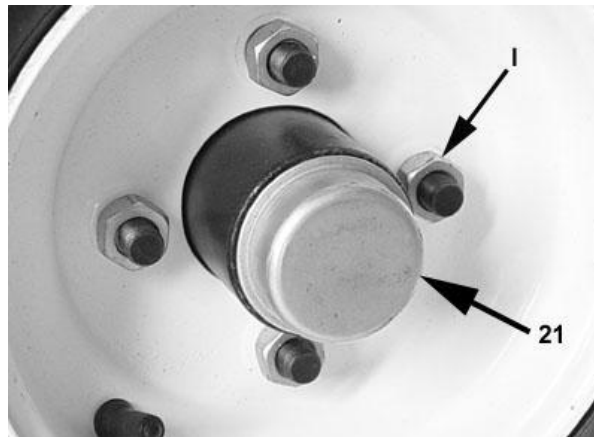

Figure 6-4
11. Install hub cap (21) firmly on hub with rubber mallet. See figure 6-4.